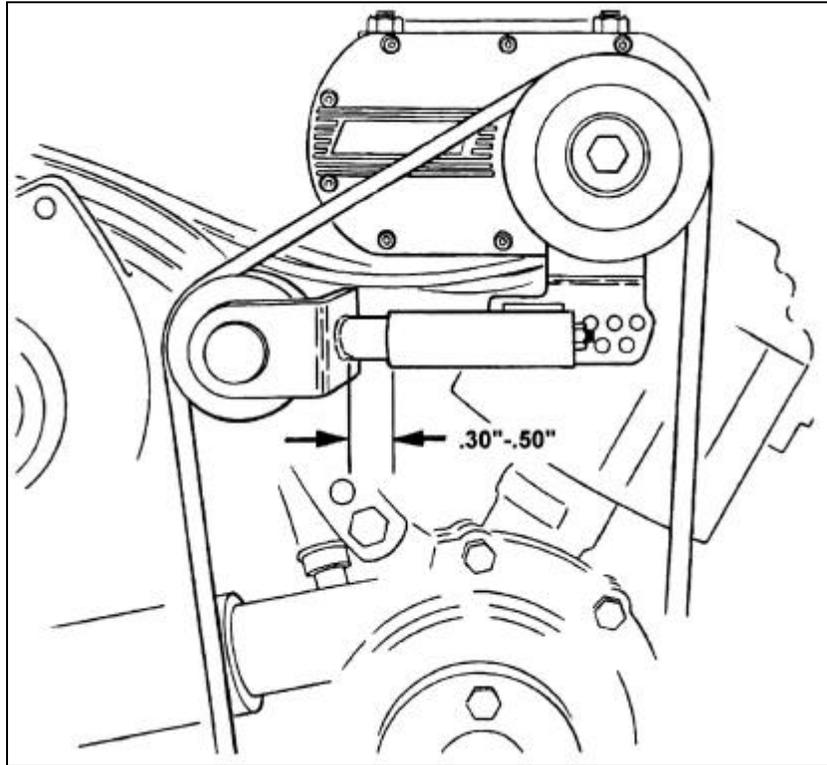

Figure 6
**STEP 9 (Poly-V belt).** Install and tighten the accessory belts. Install the Poly-V belt over the lower drive pulley, driven pulley, and idler pulley(s). Loosen the nut on the threaded rod on the back of the idler to let the idler pulley tension the belt. When the nut is loose, measure the distance between the pulley support and the end of the fixed tube of the idler as shown in Figure 6. This dimension should be between .30" and .50" (5/16" and 1/2"). If the measured dimension is outside of this range, the idler will have to be moved in or out. Due to manufacturing tolerances on belts, the final position of the idler may be different than the preliminary location.